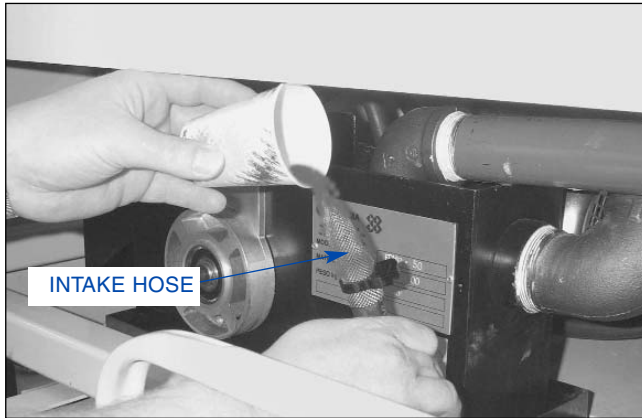

FIGURE 1-15 Coolant System
2. Bleed Coolant System (see Figure 1-15):